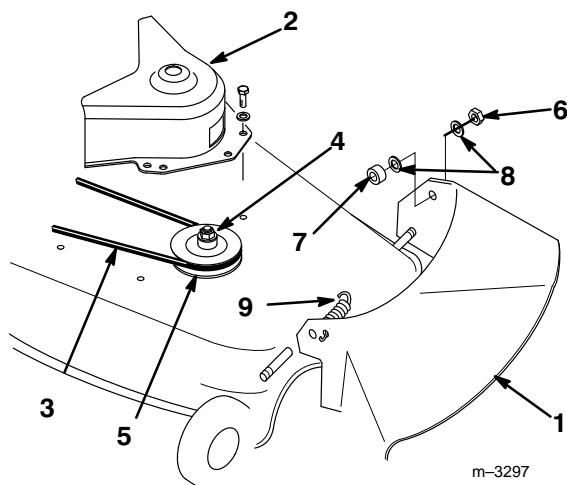

Figure 38
1. Install the discharge chute onto the mower with saved hardware (Fig. 38).
2. Install the original belt cover onto the mower with saved hardware (Fig. 38).